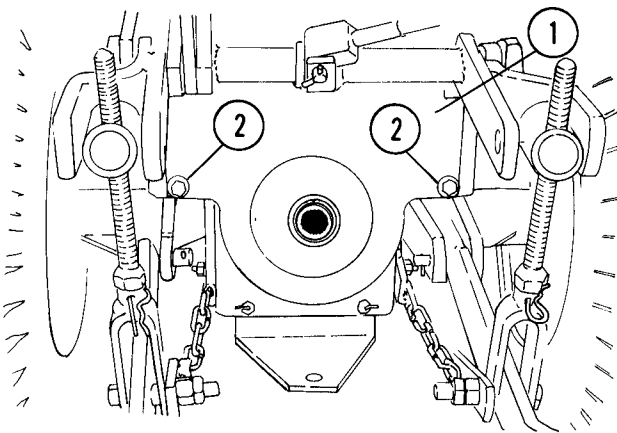

Fig. 1 — Rear Cover Assembly
1. Remove and discard two lower bolts from tractor rear PTO cover as shown in Figure 1.